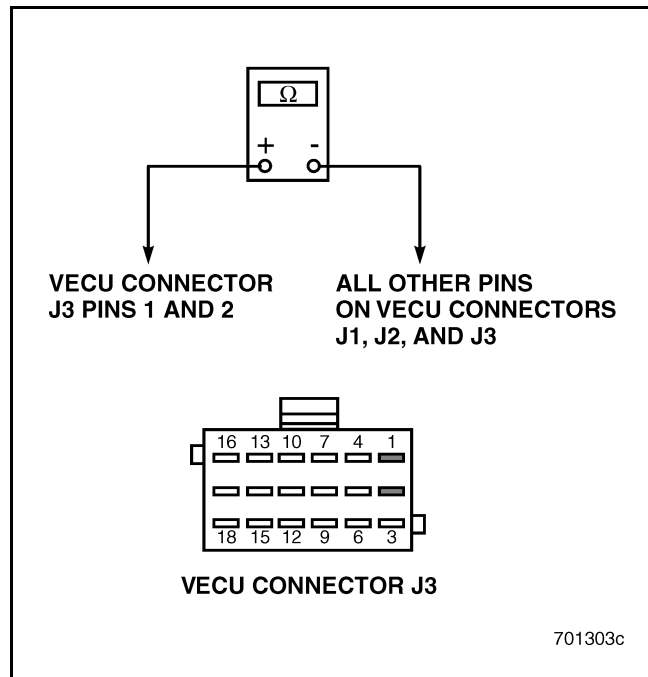

Figure 643
5. Check for continuity between VECU connector J3 pins 1 and 2 versus all other pins on VECU connectors J1, J2 and J3 (see Figure 643).